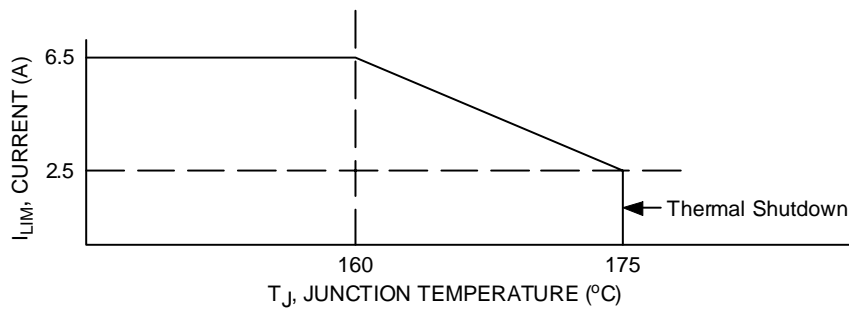
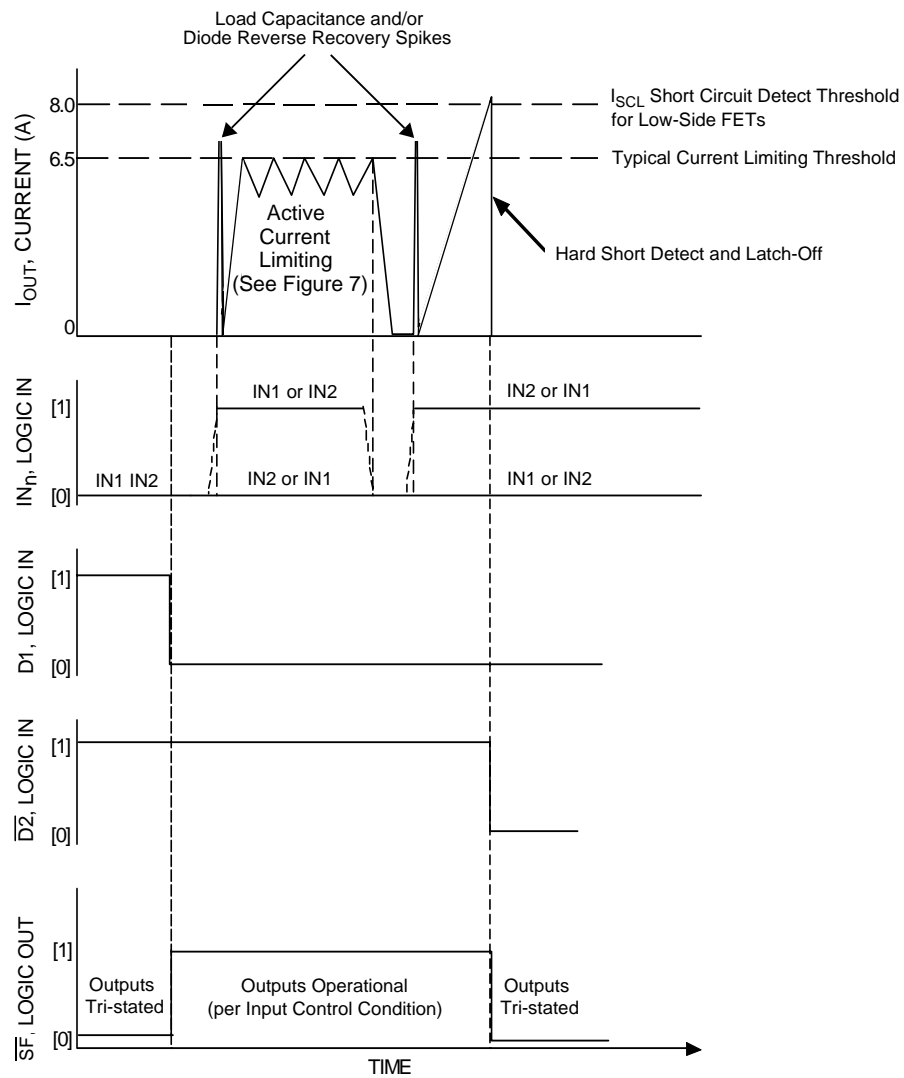

Figure 7. Active Current Limiting Versus Temperature (Typical)
Figure 8. Active Current Limiting Versus Time
- Increasing currents will become limited at  $I_{\text{LIM}}$ . Hard shorts will breach the  $I_{\text{SCH}}$  or  $I_{\text{SCL}}$  limit, forcing the output into an immediate tri-state latch-OFF. See Figures 8 and 9, page 9. Active current limiting will cause junction temperatures to rise. A junction temperature above  $160^\circ\text{C}$  will cause the active current limiting to progressively “fold-back” (or decrease) to 2.5 A typical at  $175^\circ\text{C}$  where thermal latch-OFF will occur. See Figure 7, page 8.
The current limiting threshold value is dependent upon the device junction temperature. When  $-40^\circ\text{C} < T_J < 160^\circ\text{C}$ ,  $I_{LIM}$  is between 5.2 A and 7.8 A. When  $T_J$  exceeds  $160^\circ\text{C}$ , the  $I_{LIM}$  current decreases linearly down to 2.5 A typical at  $175^\circ\text{C}$ . Above  $175^\circ\text{C}$  the device overtemperature circuit detects  $T_{LIM}$  and overtemperature shutdown occurs (see Figure 7, page 8). This feature allows the device to remain operational for a longer time but at a regressing output performance level at junction temperatures above  $160^\circ\text{C}$ .